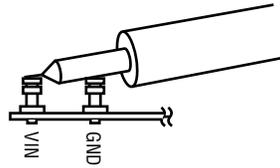

Figure 2. Measuring Input or Output Ripple
NOTE: When measuring the input or output voltage ripple, care must be taken to avoid a long ground lead on the oscilloscope probe. Measure the input or output voltage ripple by touching the probe tip directly across the V_{IN} or V_{OUT} and GND terminals. See the proper scope probe technique in Figure 2.
5. Set the load current of both outputs to 3A and the input voltage to 12V, then measure each output ripple voltage (refer to Figure 2 for proper measurement technique); they should each measure less than 20mVAC. Also, observe the voltage waveform at either switch node (pins 16 and 17 for channel 1, and 23 and 24 for channel 2) of each regulator. (Both switch node waveforms should be rectangular in shape and 180° out-of-phase with each other). The switching frequencies should be between 800kHz and 1.2MHz ($T = 1.25\mu$ s and 0.833 μ s).